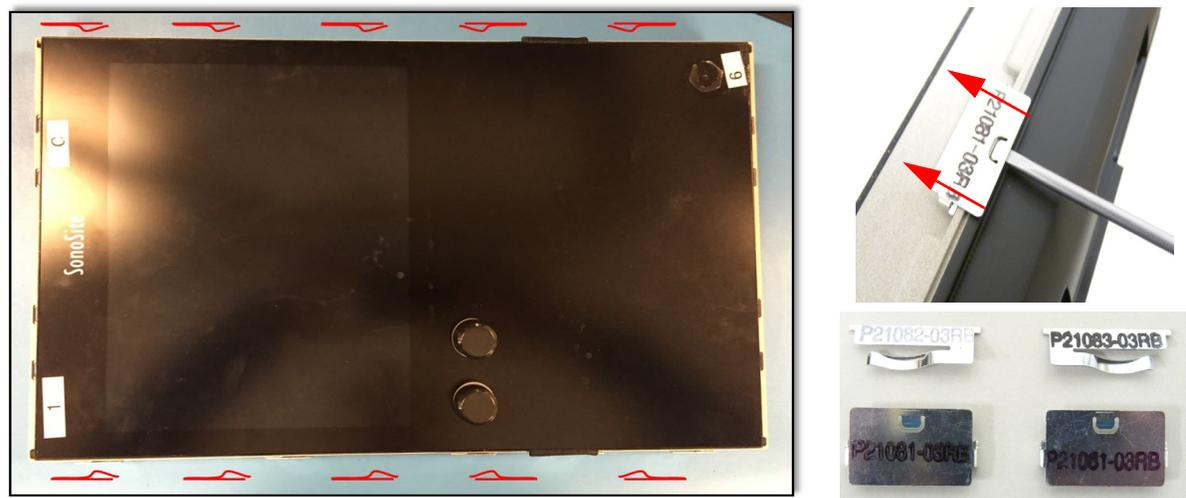

Figure 6.7 Slide Lock Spring and Plate removal
- 5 With a 1/8 in screwdriver, remove ten Slide Lock Plates from sides of UI per Figure 6.7.
- 7 Figure 6.7 shows the proper orientation of the Slide Lock Springs. Make note of proper orientation before removal.